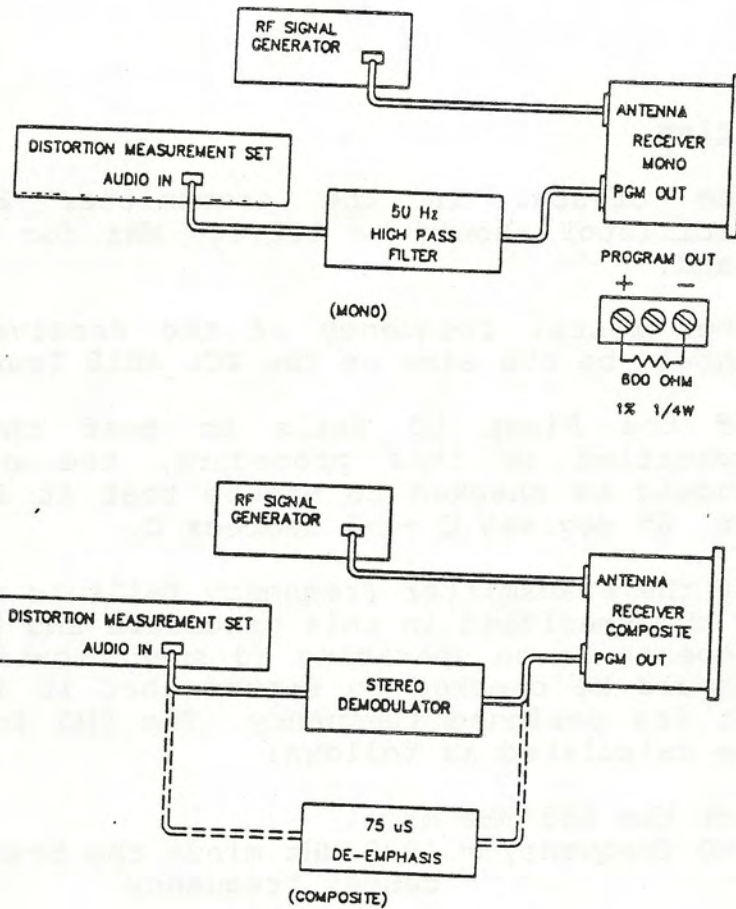

Figure 5-2
1. Connect the equipment as shown in Figure 5-2 and set the controls on the signal generator as follows: